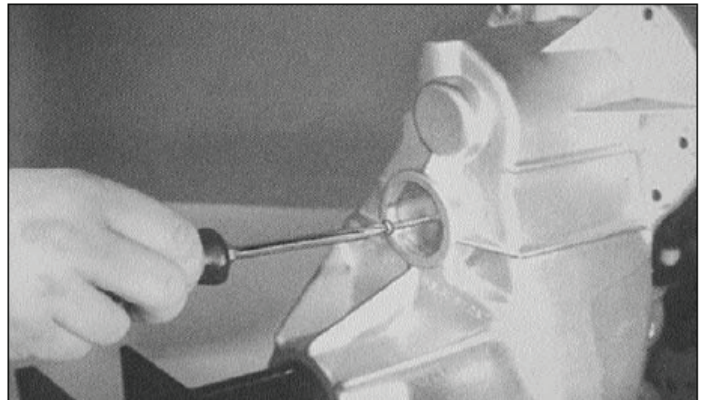

Figure 7-18. Removing Cup Plugs
12. Punch or drill a 1/8" diameter hole near the center of each intermediate cup plug (17). Insert a suitably sized sheet metal screw until the metal bore plug is forced out of the bearing bore. See Figure 7-18.